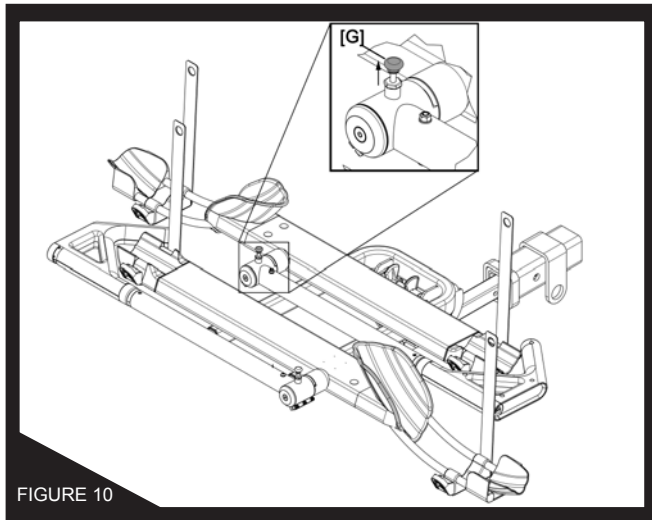
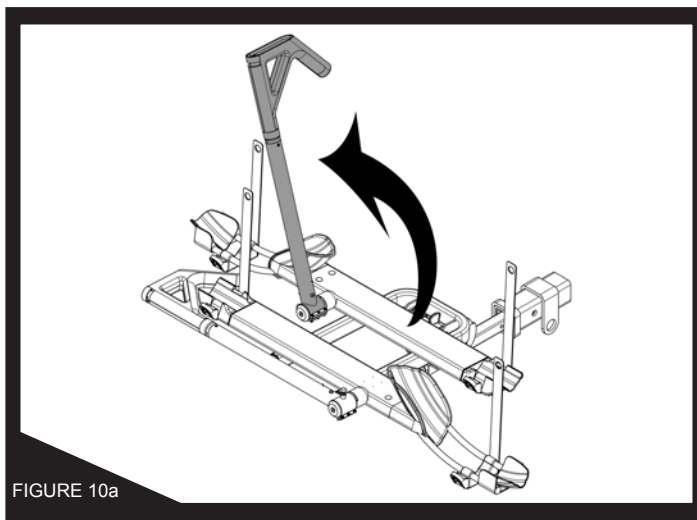

FIGURE 10
FIGURE 10a
STEP 7: Raise Bike Spar Arm, lift pull pin [G] as shown in Fig. 10, while rotating Spar Arm to its full forward position, Fig 10a.